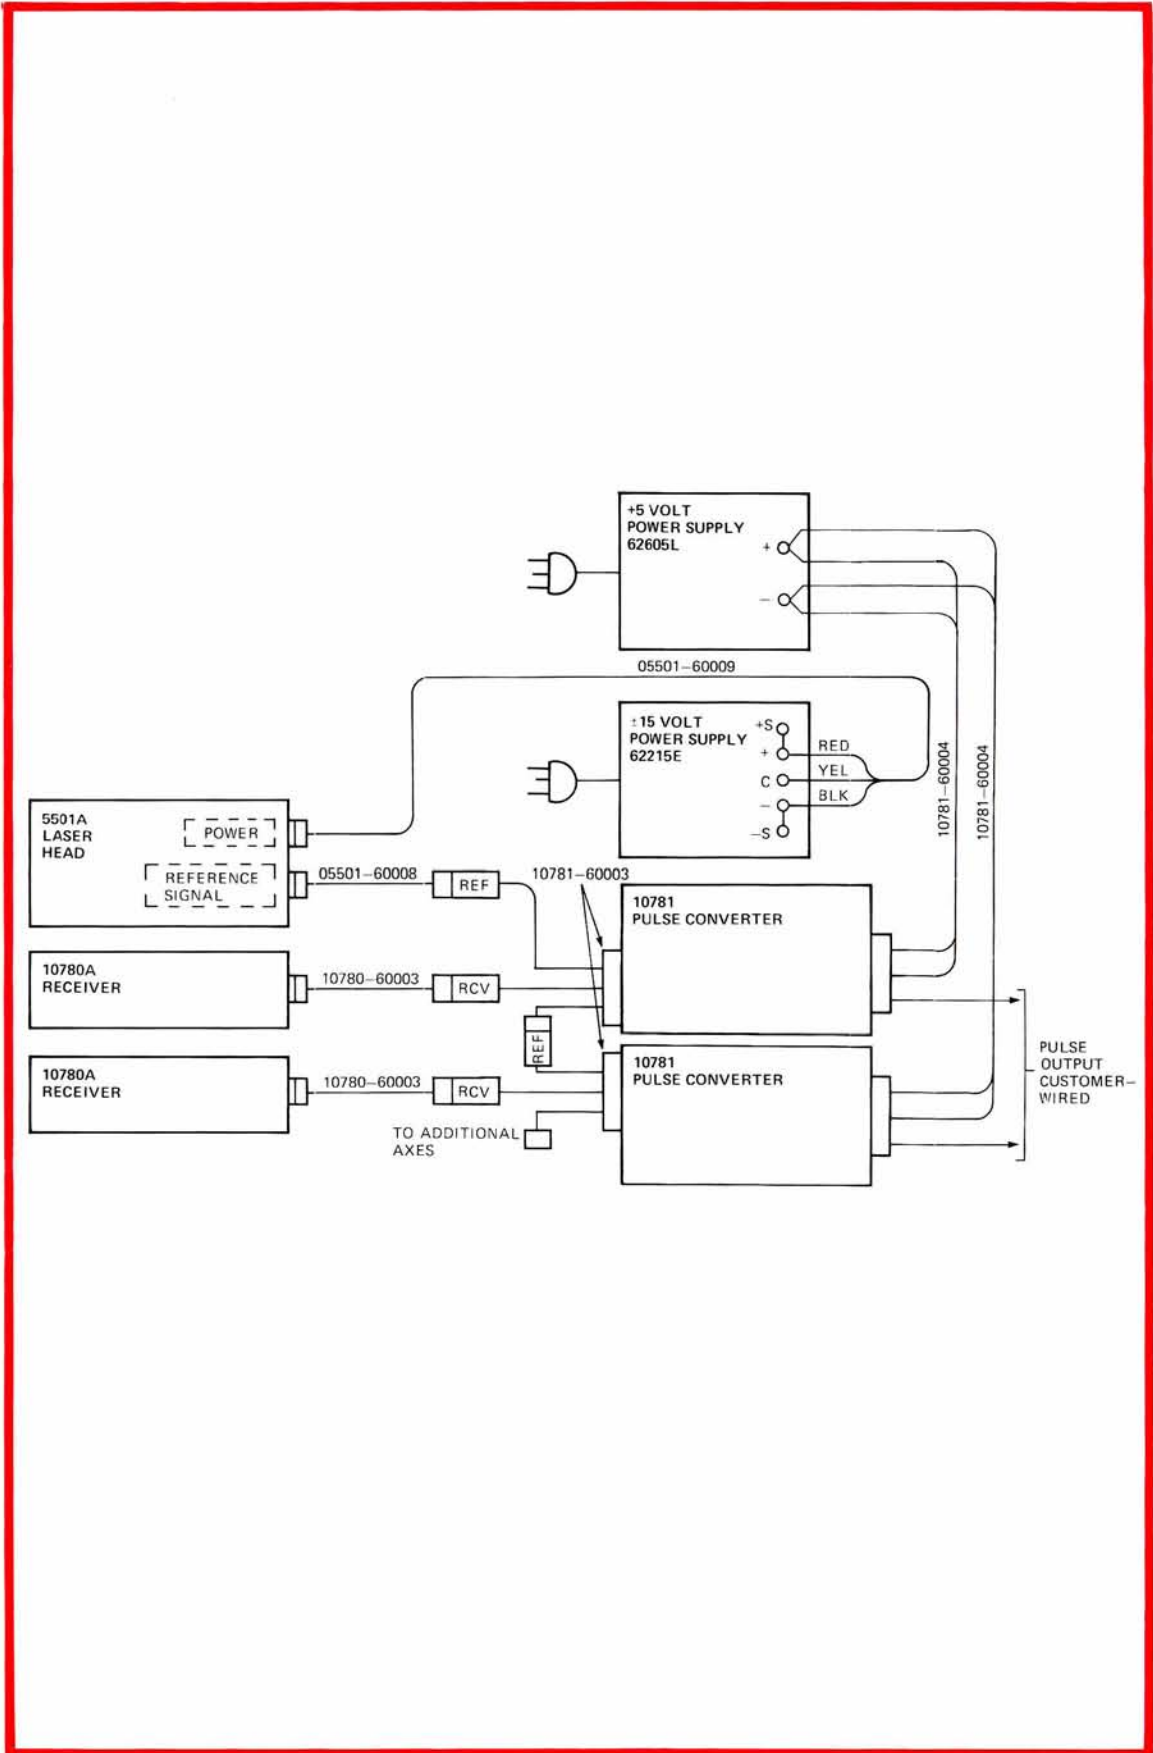

Figure 5-11. 10781A Pulse Converter Electronics Interconnecting
- c. Connect the reference and measurement cable from the laser head and first receiver to the applicable 10781A Pulse Converter (see *Figure 5-11* for a typical system interconnect).